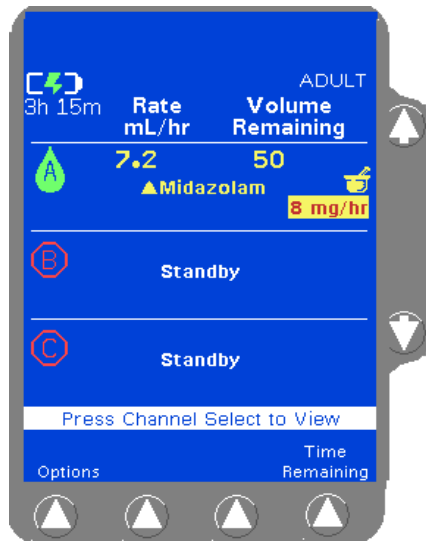
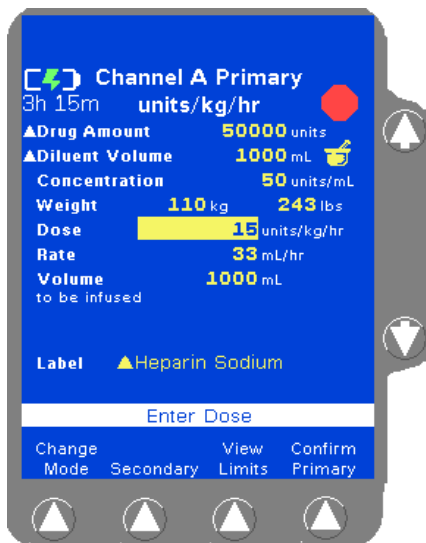

Figure 2-12 Infusion with COLLEAGUE GUARDIAN Limit Override
Figure 2-13 COLLEAGUE GUARDIAN Programming Screen—Example of Non-Standard Weight-Based Dose
- On the Main Display, the flow rate for infusions for which the clinician chose to override the predefined limits are displayed in red text on a yellow background. See Figure 2-12 for an example of a Main Display screen for an infusion that overrides the COLLEAGUE GUARDIAN feature limits. The triangle next to the Midazolam label indicates that the standard concentration has been edited from the predefined values.
- Infusions utilizing the COLLEAGUE GUARDIAN feature are identified on the pump's information and programming screens by the mortar and pestle icon  to the right of the infusion information. See Figure 2-12 and Figure 2-13 for examples.
- If changes to standard concentration *are* allowed, the **Diluent Volume** and **Concentration** fields *can* be edited by the clinician when programming an infusion. White triangles appear beside the field names for fields that have been edited. In the example shown in Figure 2-13, the clinician has changed the **Drug Amount** and **Diluent Volume** fields to values that differ from the programmed COLLEAGUE GUARDIAN feature limits for Heparin Sodium. The yellow triangle beside the Heparin Sodium label indicates that the concentration can be edited.